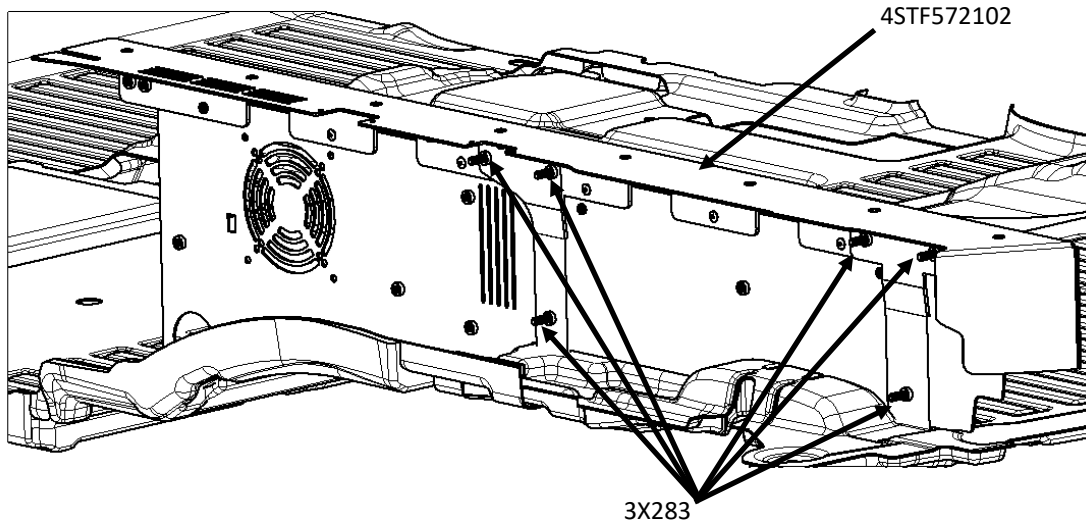

Figure 3
1. Locate Drivers Side Panel Assembly [4STF572102], Passenger Side Panel Assembly [4STF572103], and (12) [3X283] 1/4-20x1 Button Head Socket Cap Screws.
2. Mount Drivers Side Panel Assembly to brackets as shown in Figure 3 with 1/4" hex drive. Screws should be mounted with the head facing the interior.